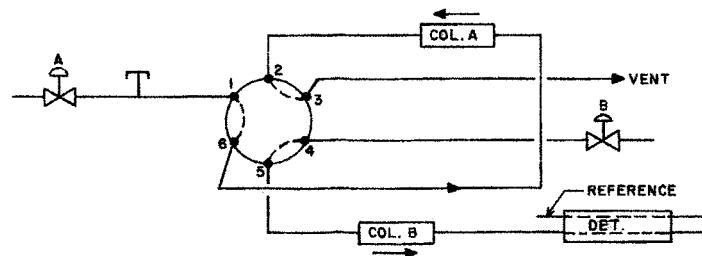

FIG. 2 Valve Backflush
5.1 *Chromatograph*—Any chromatographic instrument that has a backflush system and thermal conductivity detector, and that can be operated at the conditions given in Table 1, can be employed. Two backflush systems are shown. Fig. 1 is a pressure system and Fig. 2 is a switching valve system. Either one can be used.